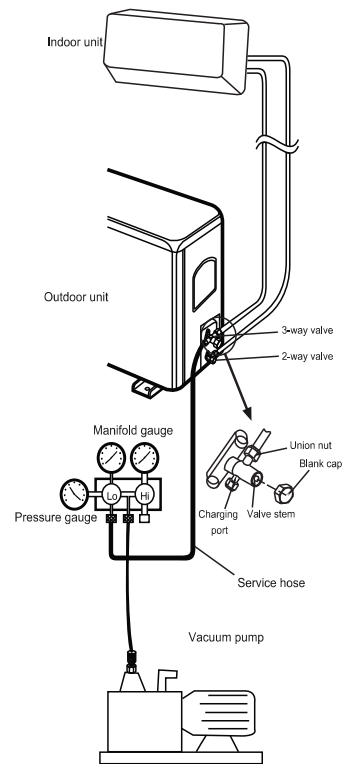

Fig.6
- 1 Check that pipelines connection have been properly connected, remove the charging port cap, and connect the manifold gauge and the vacuum pump to the charging valve by service hoses as shown **Fig. 6**.